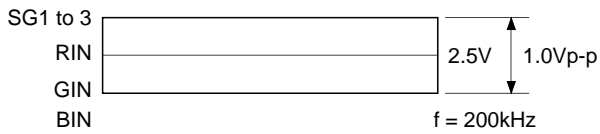

Fig. 2
| RGB output voltage | Vo (R) | SG1 | | | | | D | SG1 to SG3: DC direct coupling 2.5Vdc, 1.0Vp-p f = 200kHz Pin 9 = Clamp voltage Fig. 2 | 0.64 | 0.71 | 0.78 | Vp-p | |